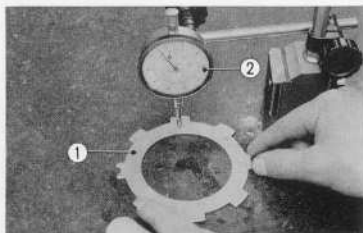

Fig. 3.69 Inspecting the clutch plate
2. Friction disc and clutch plate (Fig. 3.69)